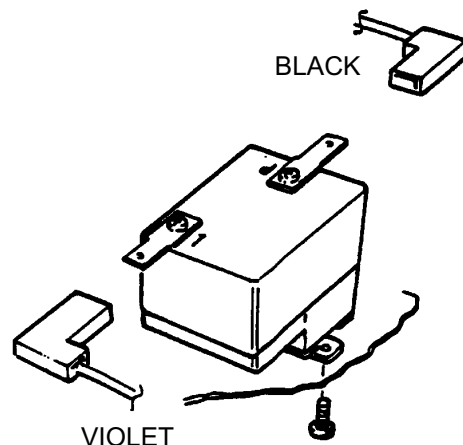

Fig. 34A
6. Re-connect push on connector. The VIOLET/BLACK wire to 1 and BLACK (3) wire to P, See Fig. 34A.